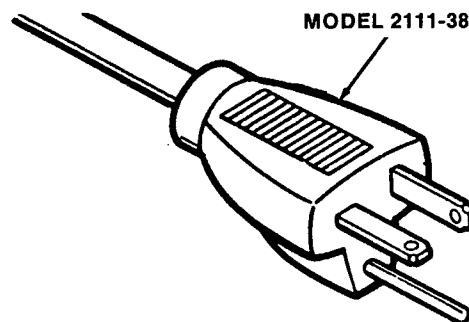

Figure 5. Electrical Plug
- E. Connect the power cord. The plug is designed for 208 or 230 volt/20 amp duty for the Model 2111-38. The unit must be connected to a properly grounded receptacle. The electrical cord furnished as part of the freezer has a three prong grounding type plug (Fig. 5). The use of an extension cord is not recommended. If one must be used, use one with a size 12 gauge or heavier with a ground wire. **Do not** use an adaptor to get around grounding requirement.